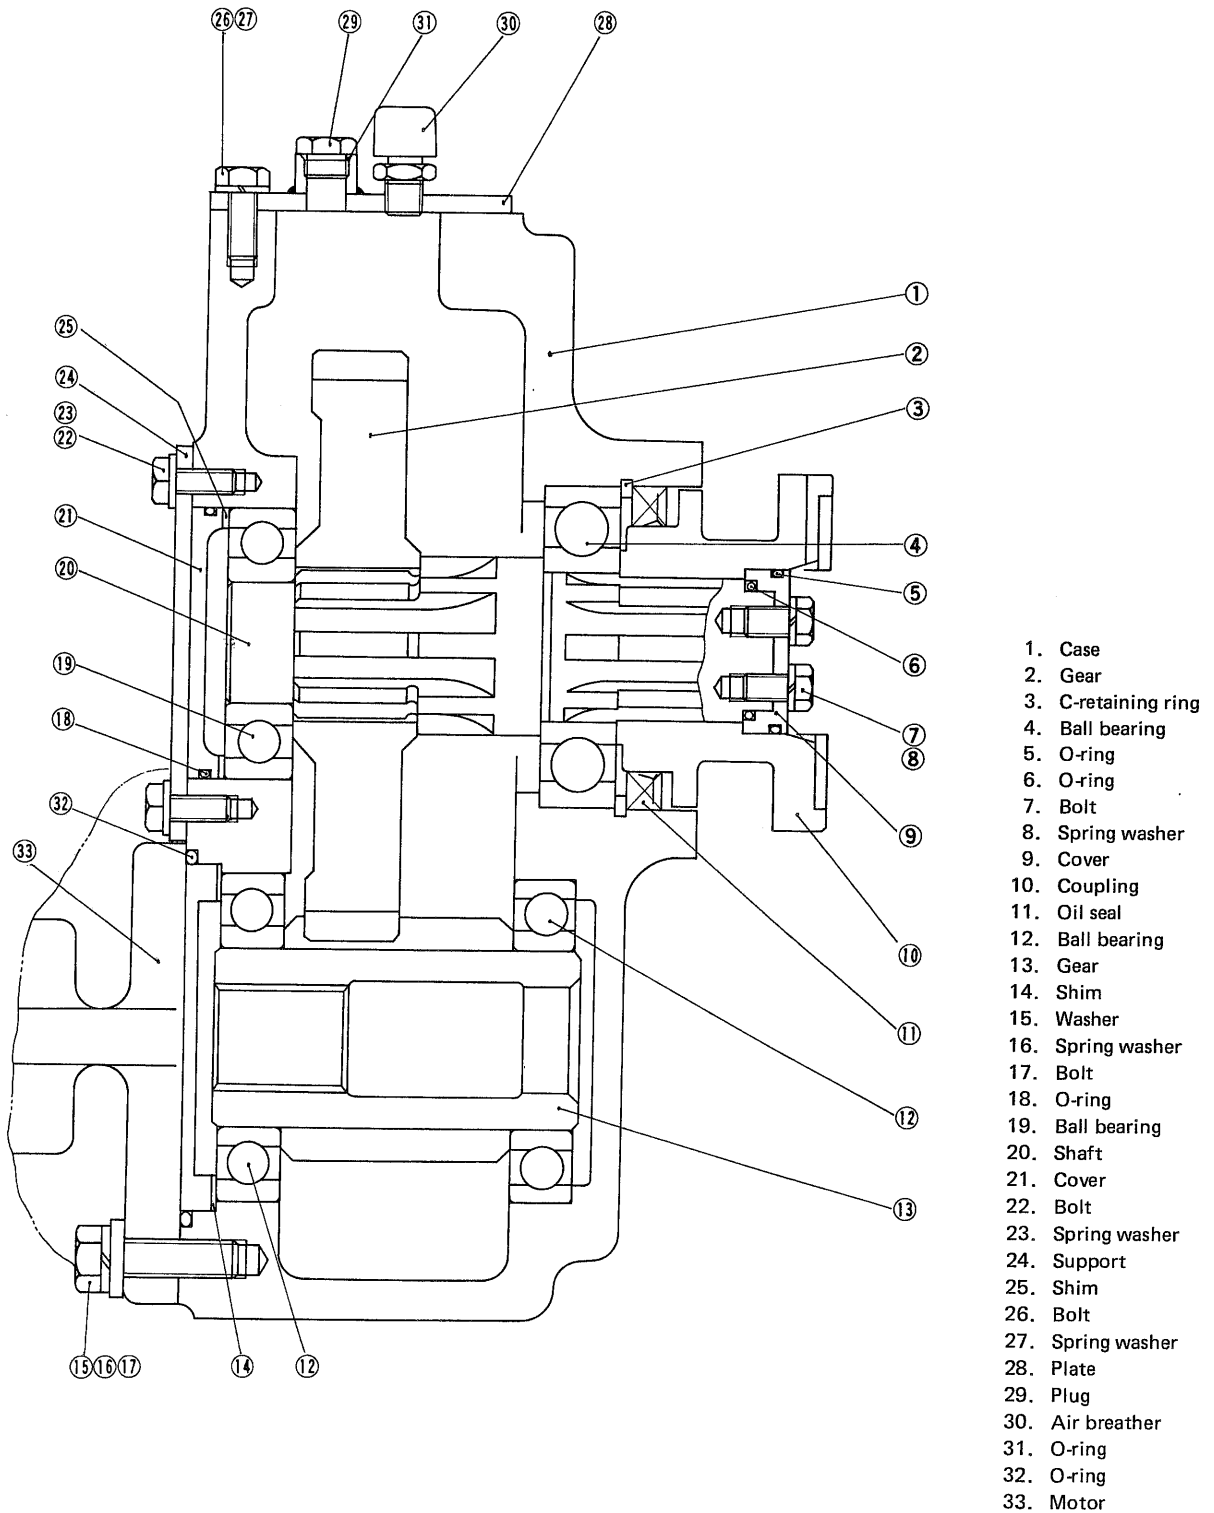
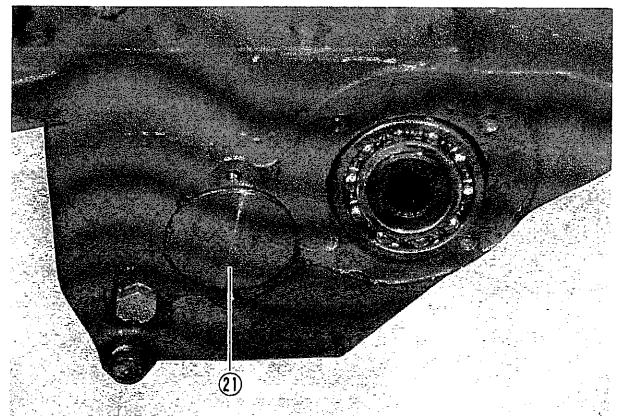
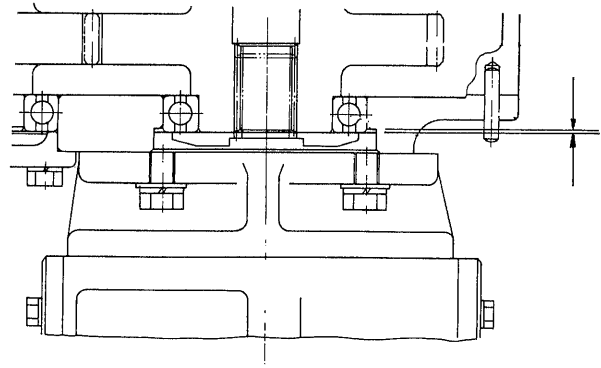

Fig. 28
Fig. 34
Fig. 39
- (6) Put shaft (20) into case (1) from coupling side and push off cover (21). (Fig. 28, Fig. 34)
- (1) When installing motor and cover **(B)** to gear case, provide a clearance **(A)** of 0.15 mm as shown by placing shims. (Fig. 28, Fig. 39)